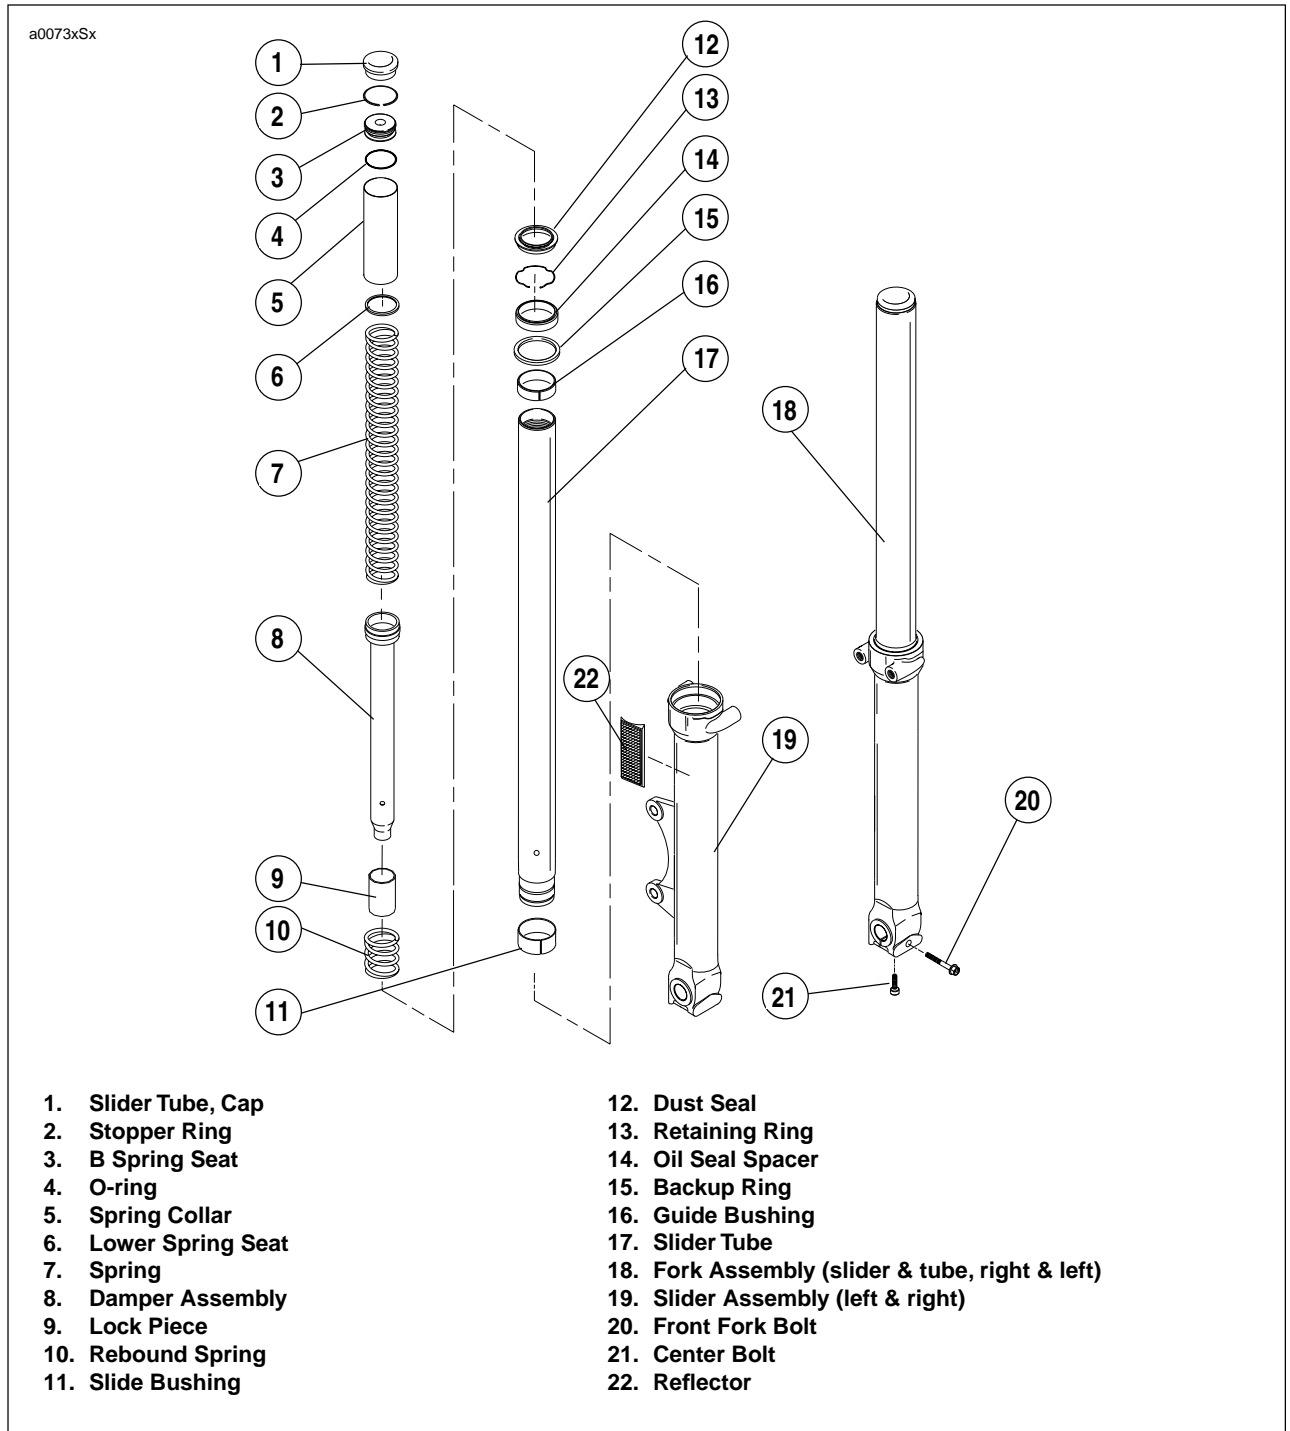
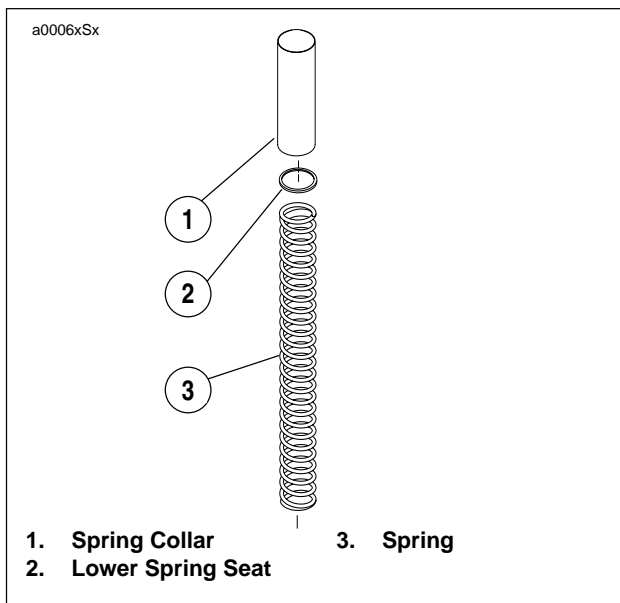

Figure 2-54. Front Fork Assembly
Figure 2-61. Removing Sub-Assembly
See Figure 2-54. The front fork consists of two telescoping outer tube/inner slider assemblies. Each assembly has an internal compression spring which supports the forward
5. See Figure 2-54. See Figure 2-61. Remove the spring collar, lower spring seat and spring from slider tube.